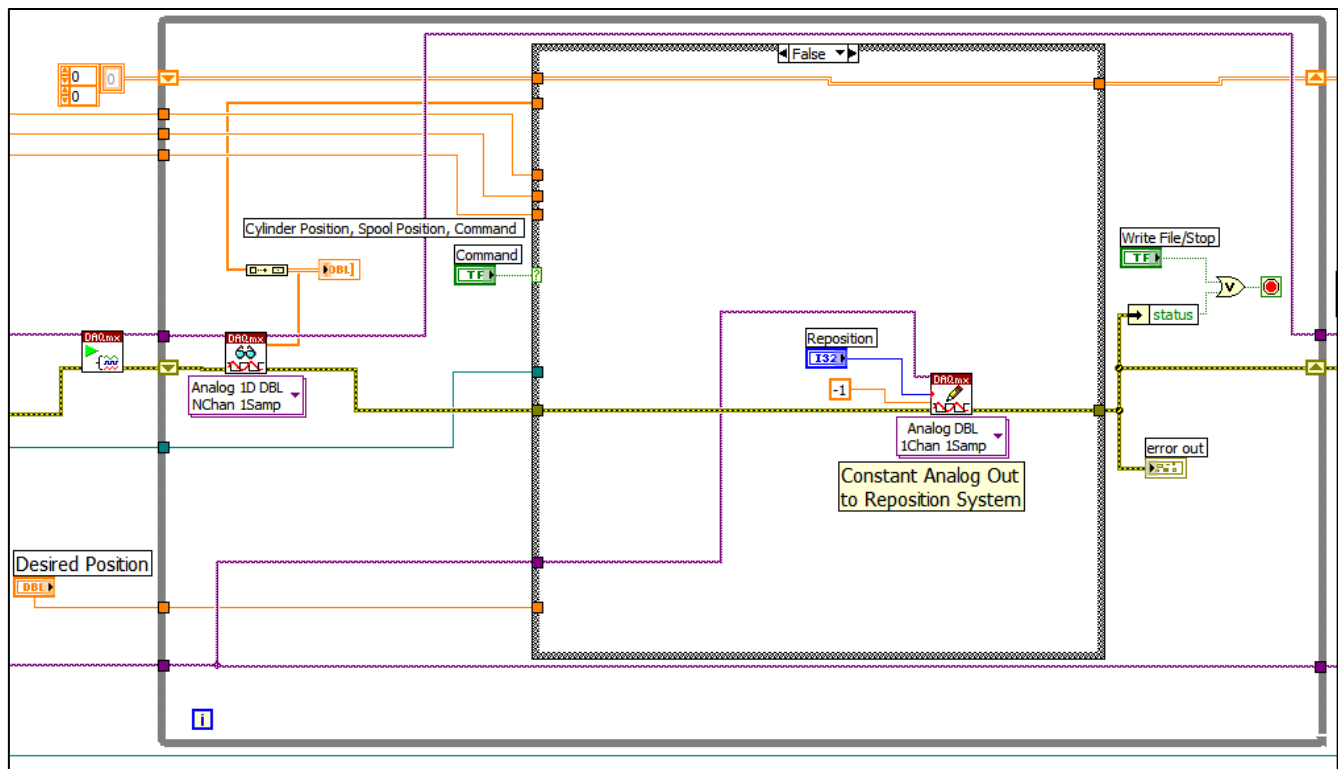

Fig. 4. The Control Loop with the Command Button *OFF*
- As execution enters this loop, the *Command* button should be *OFF*, so the program operates in *open-loop mode* by sending the *reposition voltage* to the analog output channel and data is collected and shown on the *Waveform Chart* on the front panel. The block diagram of this segment with the *Command* button *OFF* is shown in *Fig 4*.